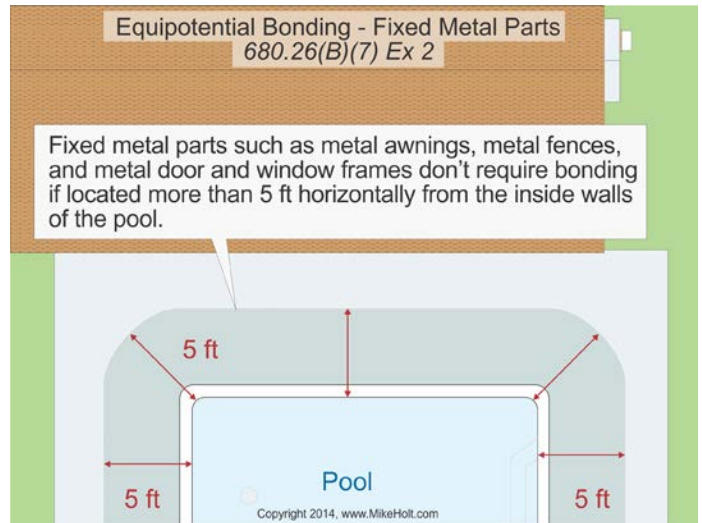

Figure 680-47
*Ex 2: If located more than 5 ft horizontally from the inside walls of the pool structure. *Figure 680-47**